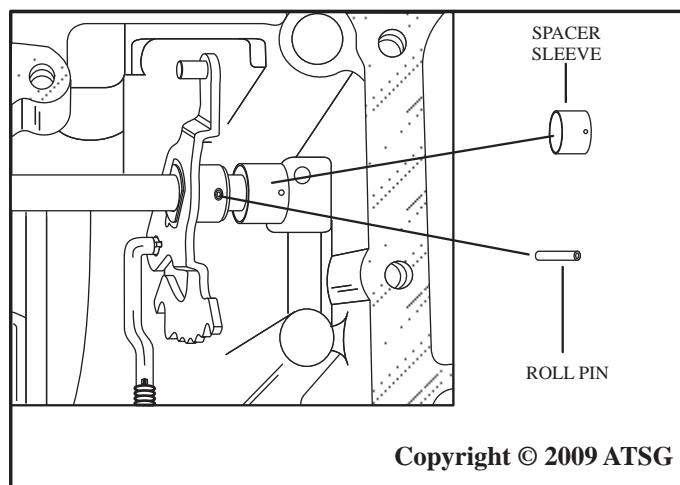

Figure 24
23. Use a small screwdriver to move the spacer sleeve as shown in Figure 24.
24. Use a 1/8 in. diameter drift punch, to remove the roll pin from the manual selector shaft as shown in Figure 24.